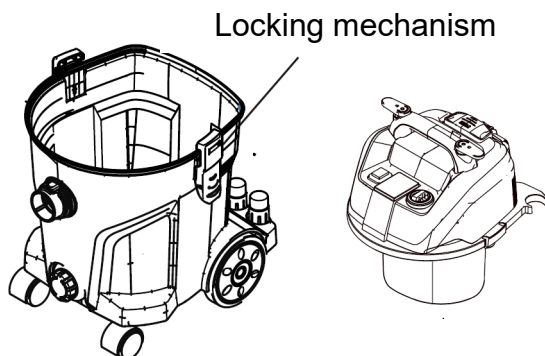

Fig. 18: Empty the tank
Step 1: To empty the dust/dirt from the tank, open the locking mechanism and remove the upper part of the housing (Fig. 18).